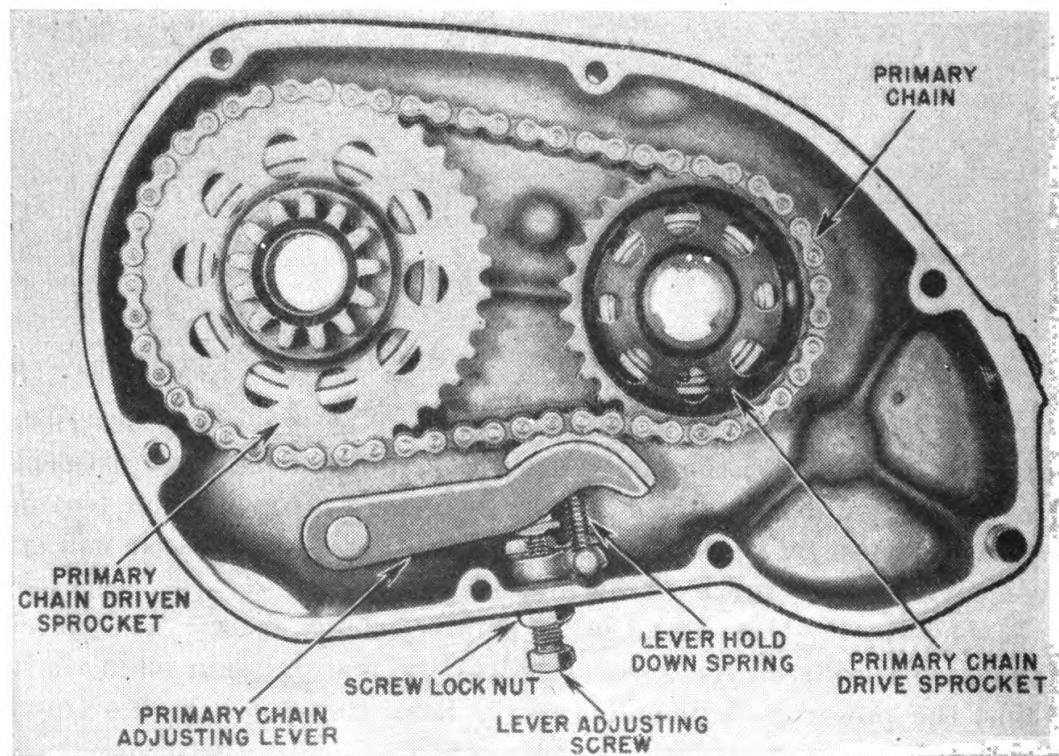

FIGURE 50.—Primary drive on shaft-driven Indian.
**49. Primary drive.**—*a.* A multiple-row roller chain on the Indian (fig. 50) transmits the power from the clutch to the transmission. It